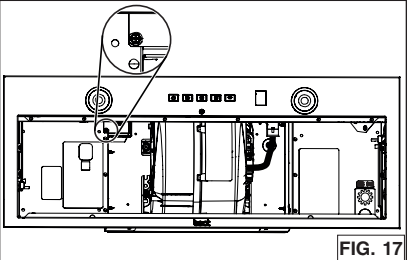

FIG. 17
5. Remove and discard the screw circled in FIG. 17.